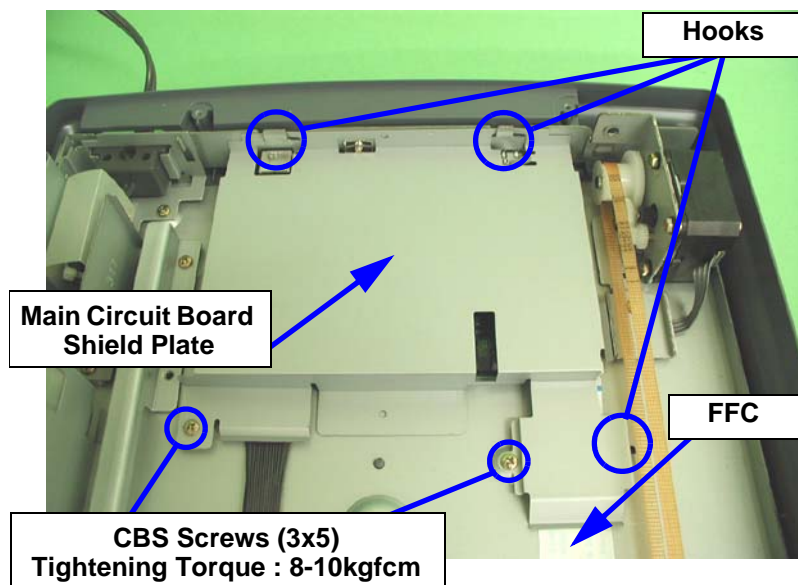

Figure 4-14. Carriage Unit Removal (4)
7. Remove the two screws (CBS, M3x5) and disengage the three hooks, and then remove the main circuit board shield plate. (See Figure 4-14)